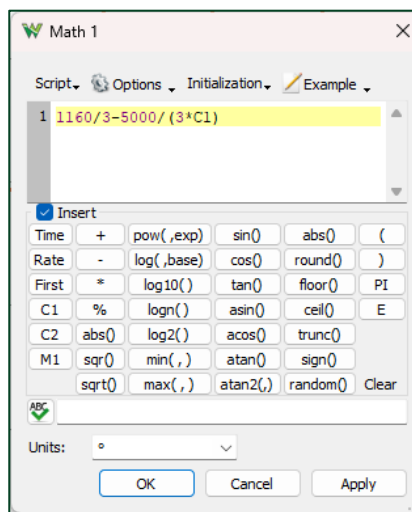

Figure 7. Custom (Software) window in Waveforms
- 5.3. In the **Math 1** window, enter the equation obtained in the previous step. Change the **Units** to $^\circ$. Select **OK** to apply the configuration. **Figure 7** presents the **Math 1** window configuration.